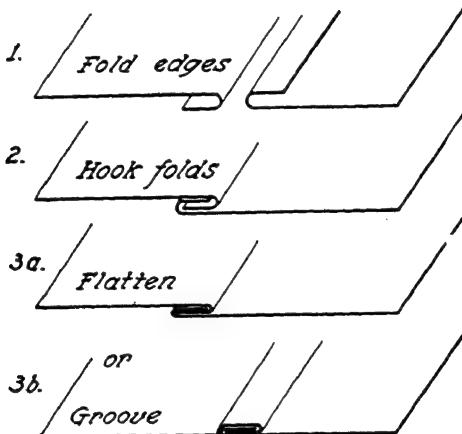
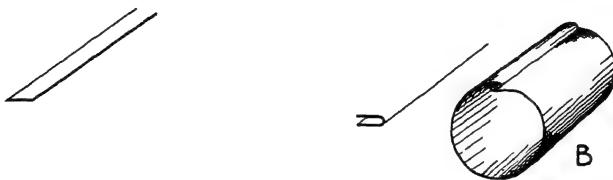

Fig. 58. Steps in making folded seam—
Fig. 59. A, metal folded from opposite sides for folded or grooved seam on cylinder. B, cylinder formed and folds of seam hooked
If necessary, fold the edges for any folded seam planned to hold the cylinder together (see Fig. 59). The grooved seam often is used for this purpose, and if a lap seam is used no folding is necessary.
The folded and grooved seams are very much alike, and the first steps in construction are exactly the same (see Fig. 58). It is the final operation that distinguishes these two seams. While the folded seam is hammered flat with a mallet, the grooved seam is grooved with a grooving tool. The folded seam is used extensively in laying flat metal roofs. This seam does not lock itself and it usually is soldered to hold it in place.
Figure 58 shows a folded and a grooved seam. Note there are four layers of metal at the seam. Additional metal, equivalent to three times
This is best done on the bar or roofing folder. If hand methods are necessary, see Unit 7. Set the gauge on the bar folder to the desired width of the seam, and fold. Note that one edge is folded from one side and the other from the opposite side of the piece (see Fig. 58). This last order of folding is especially important when forming a cylinder or any enclosure made from one piece (see Fig. 59).
Hook the folds to form the seam as shown in 2, Figure 58.
8. State order of making a folded or grooved seam (see Fig. 58).